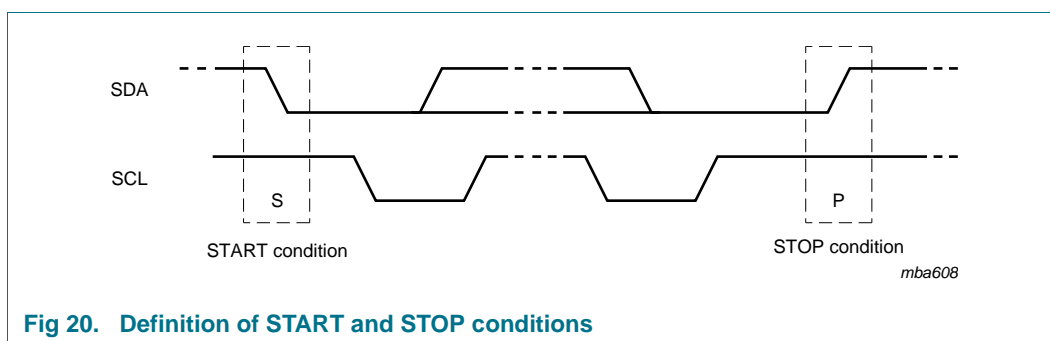

Fig 20. Definition of START and STOP conditions
Both data and clock lines remain HIGH when the bus is not busy. A HIGH-to-LOW transition of the data line while the clock is HIGH is defined as the START condition (S). A LOW-to-HIGH transition of the data line while the clock is HIGH is defined as the STOP condition (P) (see Figure 20).